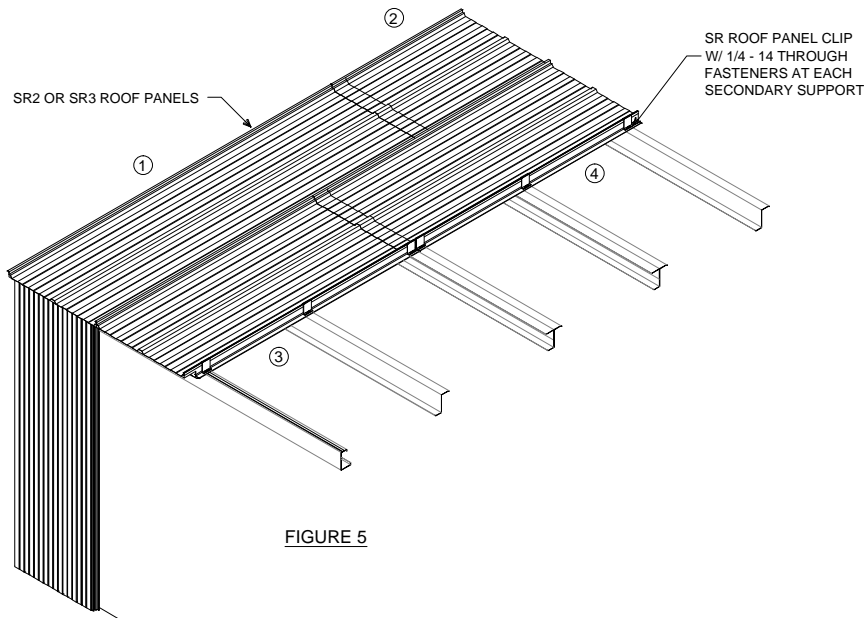

FIGURE 5
- 11.1 SR2 AND SR3 ROOF PANELS MUST BE INSTALLED IN A SPECIFIC SEQUENCE. THIS ENSURES THE CORRECT LAPPING OF THE SIDE AND END LAPS. (REFER TO FIG. 5) FOR THE CORRECT INSTALLATION SEQUENCE. THE PANEL NUMBERS CORRESPOND TO THEIR ORDER OF INSTALLATION.